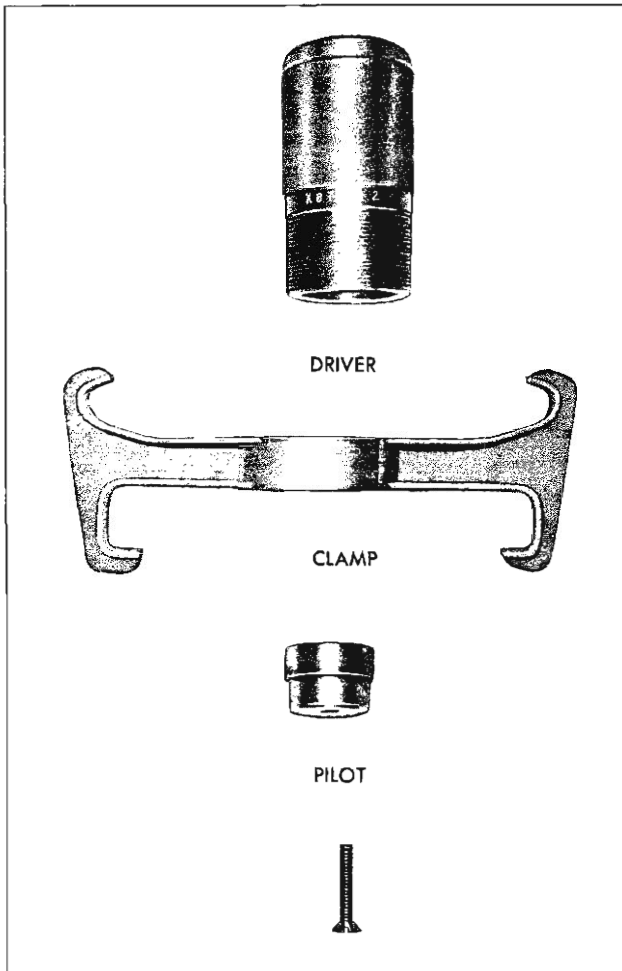

Fig. 86—Balancer Installer Tool
1. Thread the driver section of Tool into clamp section from shallow fingers to deep fingers (fig. 86).